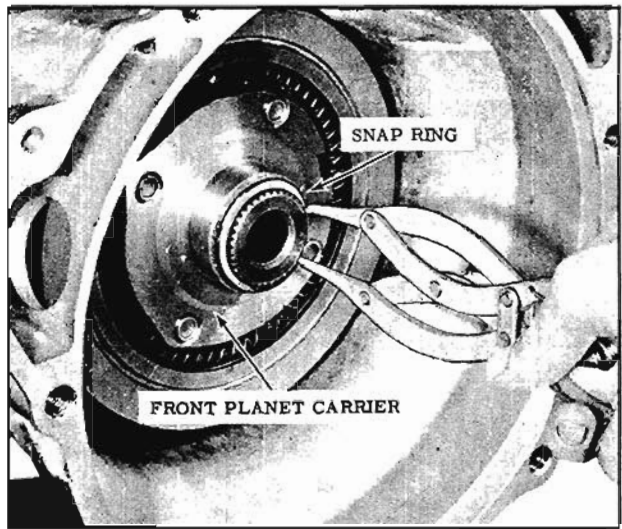

Fig. 6-40 Removing Snap Ring
1. Remove front carrier to carrier shaft snap ring. (Fig. 6-40)